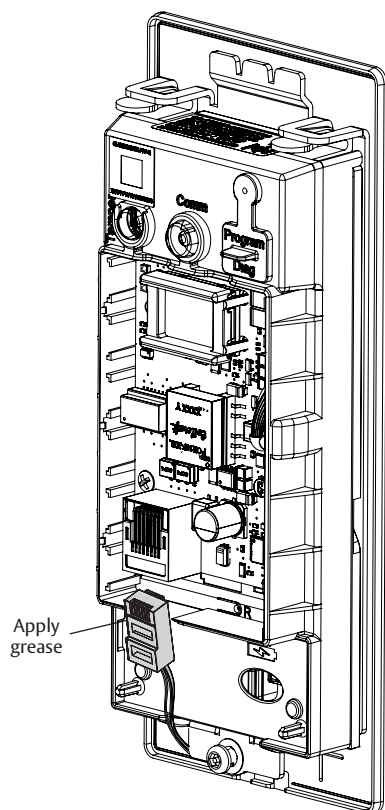

Figure 7-15A
IMPORTANT: Before inserting PoE plug into PoE connector, apply dielectric grease to top of plug, covering the pin area (Figure 7-15A).
1. Once controller is securely in place, connect RJ45 male connector to female RJ45 port on controller board (Figure 7-15A).